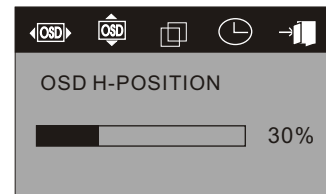
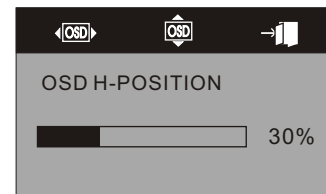

Fig.13 VGA
Fig.14 DVI
4. Position of OSD menu(): When you select the item, you can adjust H-position and V-position of OSD menu and transparence [as Fig.13:VGA、 Fig.14:DVI].